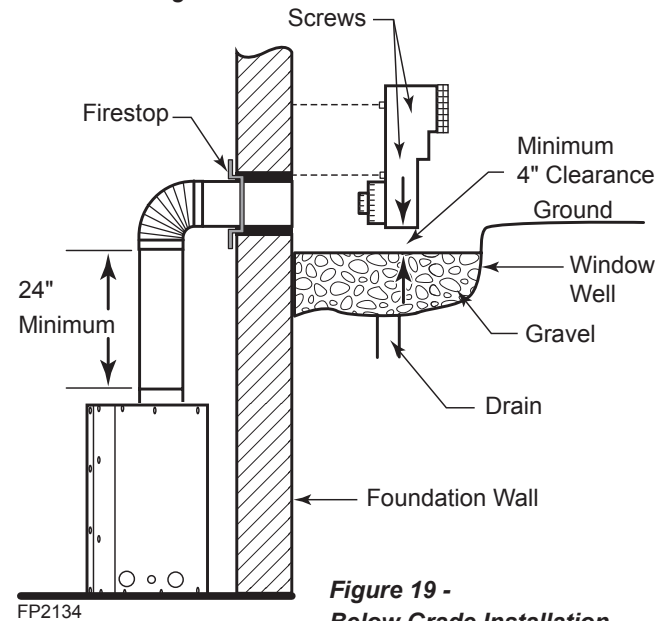

Figure 19 - Below Grade Installation
2. Remove soil to a depth of approximately 16" below base of snorkel. Install drain pipe. Install window well (not supplied). Refill hole with 12" of coarse gravel leaving a clearance of approximately 4" below snorkel. Figure 19
7. Level the soil so as to maintain a 4" clearance below snorkel. Figure 19